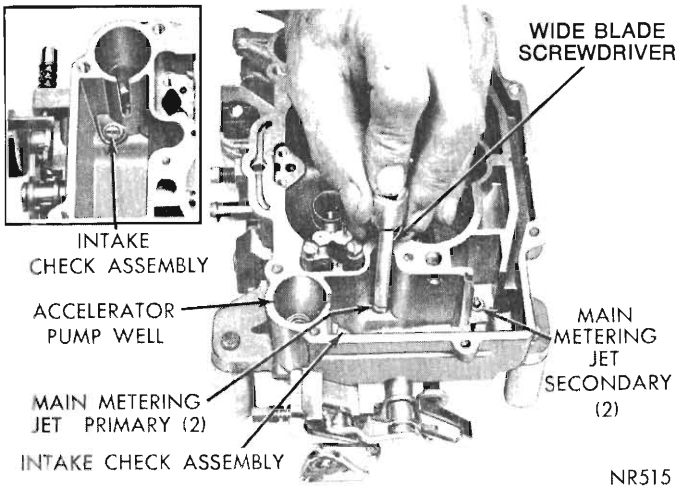

Fig. 4—Removing or Installing Main Metering Jets
(2) Remove main metering jets (primary side) (Fig. 4).
(3) Remove main metering jets (secondary side) (Fig. 4).
(5) Install primary and secondary main metering jets (Fig. 4). Tighten jets securely. Install intake check.
(6) Install accelerator pump intake check ball housing.
Remove the intake check assembly from the throttle body. Install a new check assembly, then retest as described previously (Fig. 4).